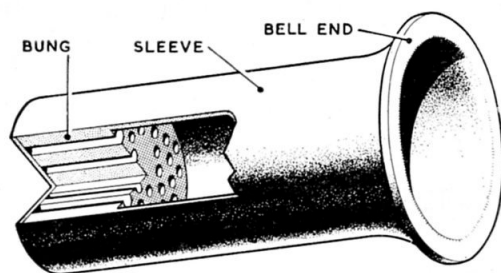

Fig. 2. Helvin waterproofing bung for Breeze plugs and sockets
5. The waterproofing bungs are made of P.V.C., and two types are available. One type (*fig. 2*) is made for fitting to Breeze plugs and sockets, and this consists of a bung situated at the end of a sleeve. The bung has a number of holes for cables to pass through, and the sizes of the holes are made to be a pressure fit on the cables. The outer ends of the holes are covered by a thin skin of P.V.C. and this has to be pierced as described in